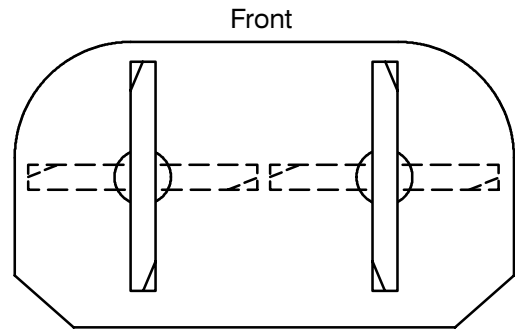
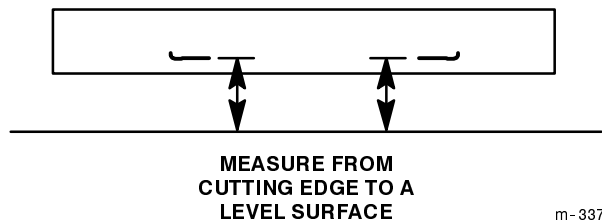

Figure 23
Figure 24
1. Rotate the blades until the ends face forward and backward (Fig. 23). Measure from a level surface to the cutting edge of the blades (Fig. 24). Note this dimension.